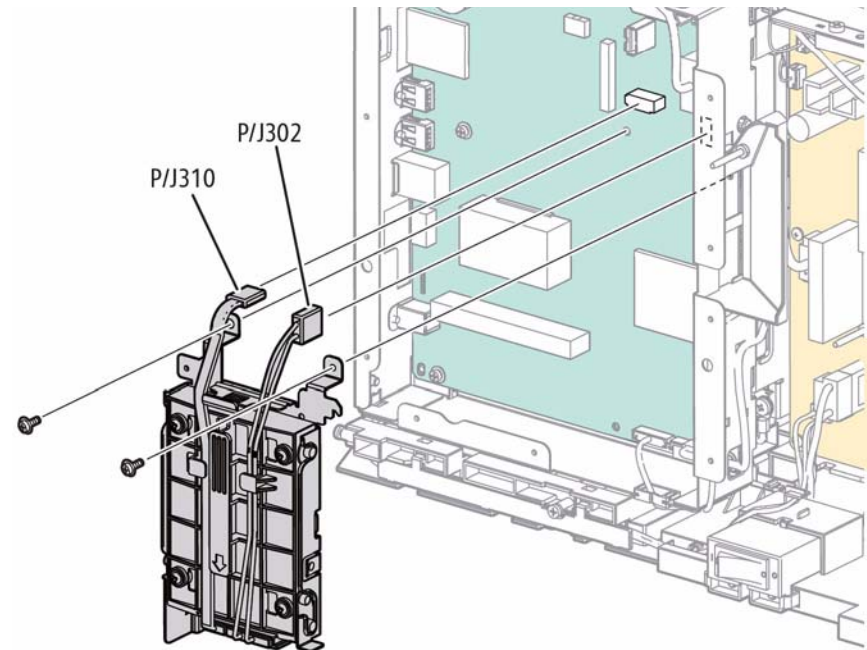

Figure 1 Remove the Hard Drive
8. Refer to Figure 1 to locate and to remove 2 screws (silver, with a washer, M3, 6mm) that secure the Hard Drive bracket to the ESS Board and ESS housing to remove.